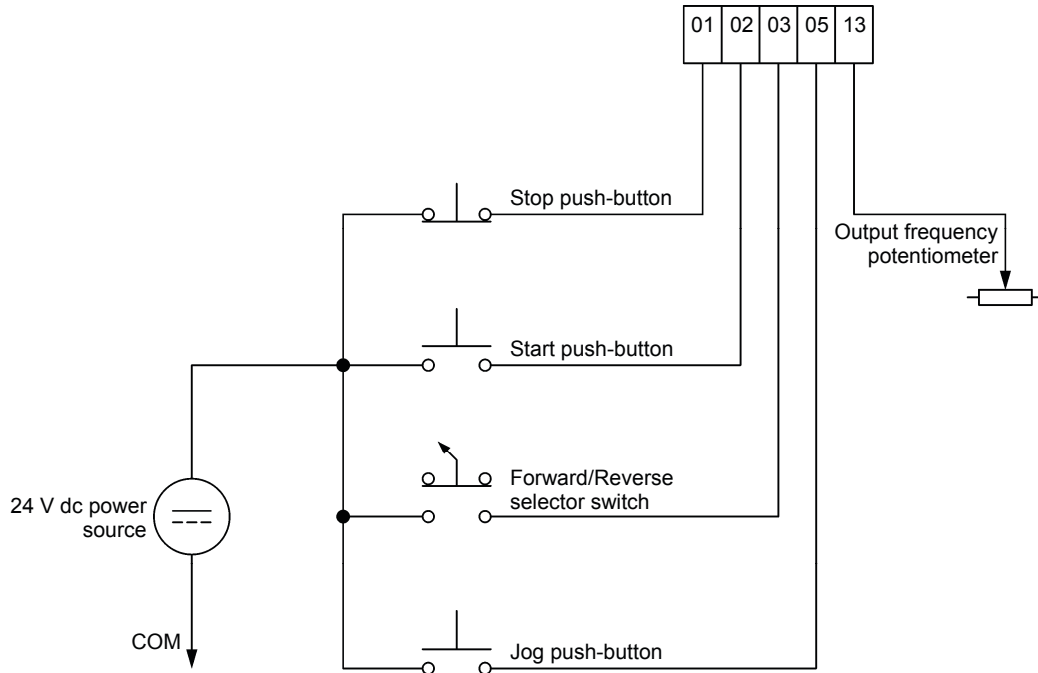

Figure 51. VFD control circuit containing start and stop push-buttons, a jog push-button, a forward/reverse switch, and an output frequency potentiometer.
20. Connect the control circuit shown in Figure 51. As the figure shows, the control circuit of the variable-frequency drive contains the following elements: